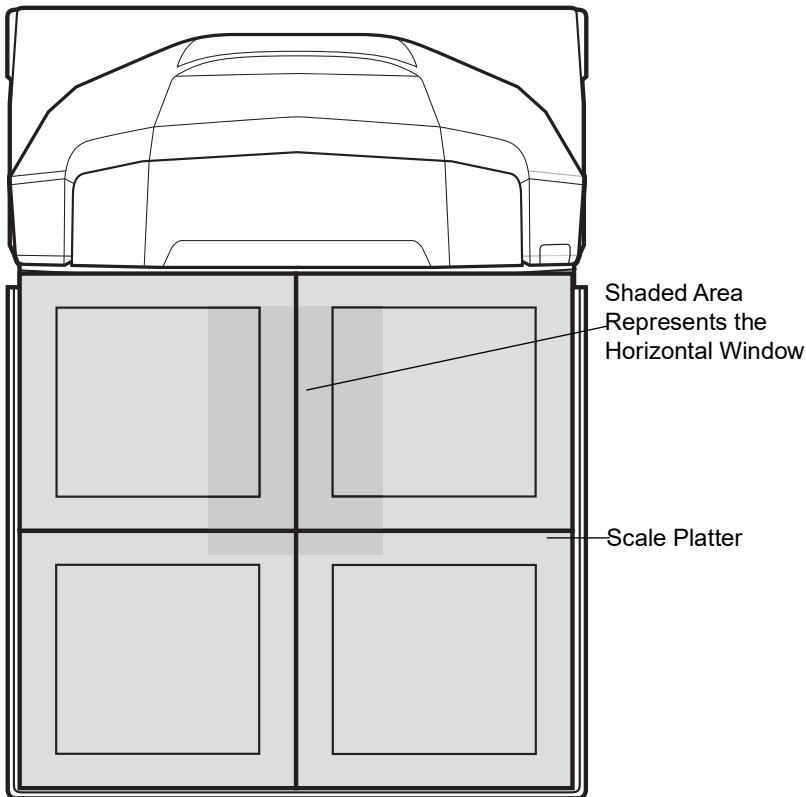

Figure 4-5 Weight Positions on the Scale Platter
Shift Test (see Figure 4-5)
The weight checked at each position on the scale, shown in Figure 4-5, represent halfway between the center of the platter and corner. Use a stack configuration of weights if needed (i.e., (2) 5.00 lb weights, or (2) 2.500 kg weights) depending on the units of measure programmed.